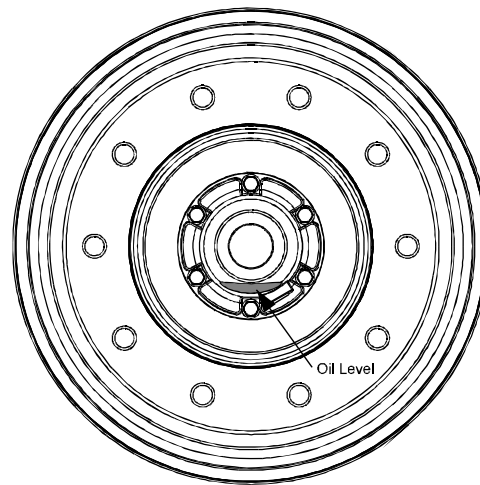

Figure 5 - Wheel Bearing Oil Level
2. Check oil level through hub cap window. If level is below the “add” level line then remove the pipe plug and fill with recommended oil until “full” level is achieved. (Figure 5). Add oil slowly since the heavy weight oil will settle slowly in the hub. (Note: The hub cap window can only be cleaned with mild soap and water. Aromatic solvents should not be used, as they will impair the transparency of the window.)